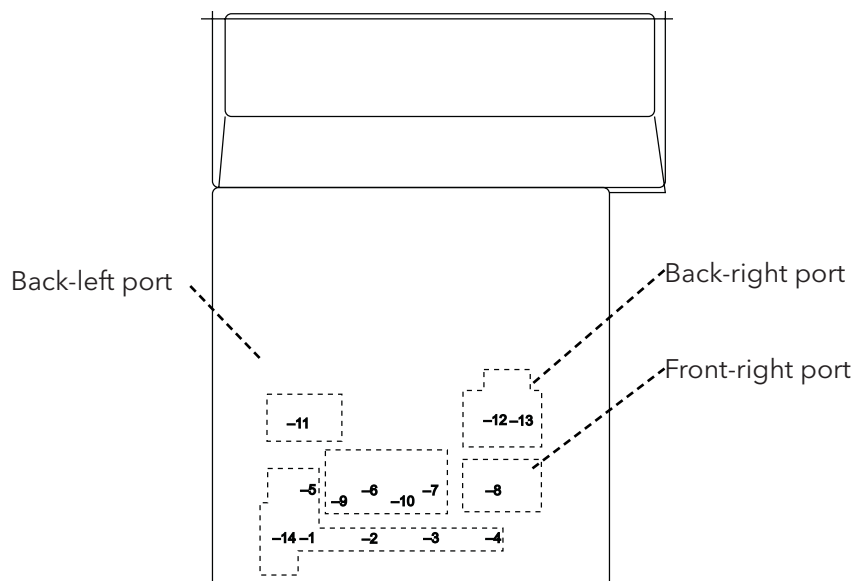

Figure 3.11. Shimadzu GC-2014 Detector Mounting Ports
3. The back-right detector port on the Shimadzu GC's top plate is the preferred port for the PFPD (see Figure 3.11). This location ensures that the photomultiplier tube (PMT) will not receive excess heat from the injector port.
NOTE: The PFPD can be installed into the front-right or back-left port, as long as the PMT housing does not come too close to an injector or another heated detector. Avoid running the heater cable alongside the PMT signal cable. Either condition will contribute to noise to the detector signal (see Figure 3.11).